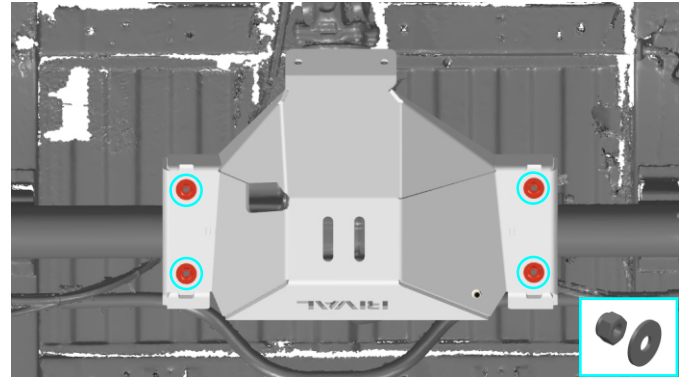

Fig. 2
2. Install differential skid plate (item 1) and secure it using nuts M10 and washers M10 (items B, C) as shown in fig.2.